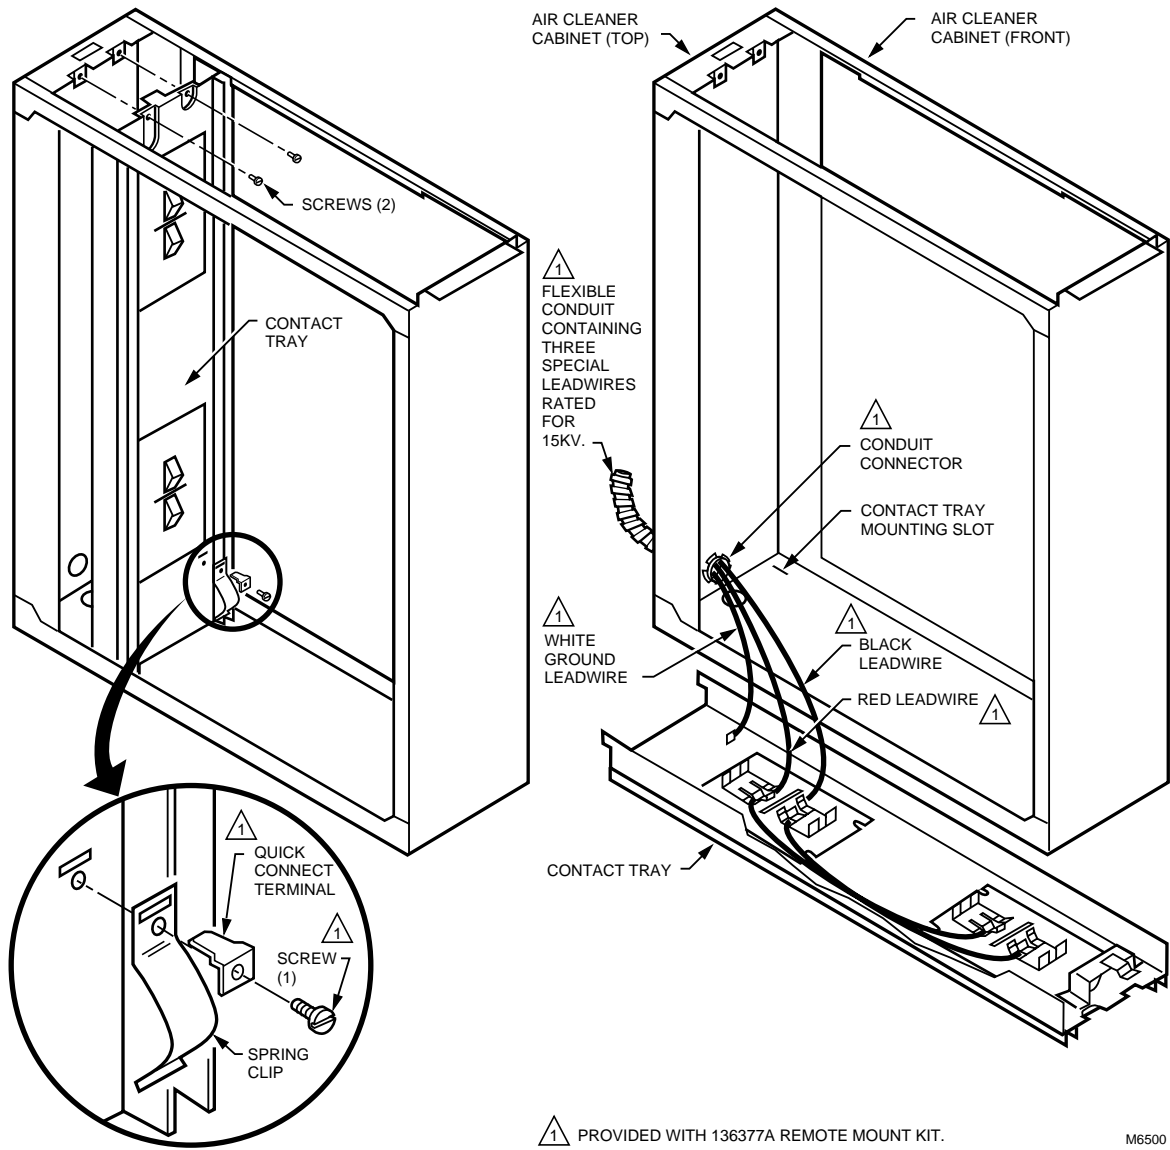

Fig. 18. Install the conduit on the cabinet and make wiring connections to contact tray.
- Connect the black wire to the collector terminal and the red wire to the ionizer terminal. See Fig. 18.
- Mount one of the quick-connect ground terminals and the leaf spring supplied in the kit on the contact tray and connect the white wire to it. See Fig. 18.